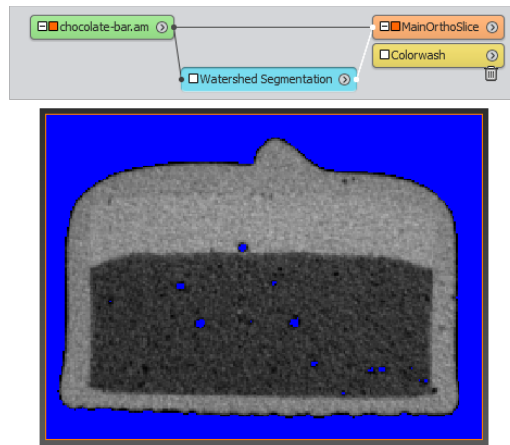

Figure 4.74: The *Watershed Segmentation* wizard at step 4.
- You can use 0-435 as range (see Figure 4.74).